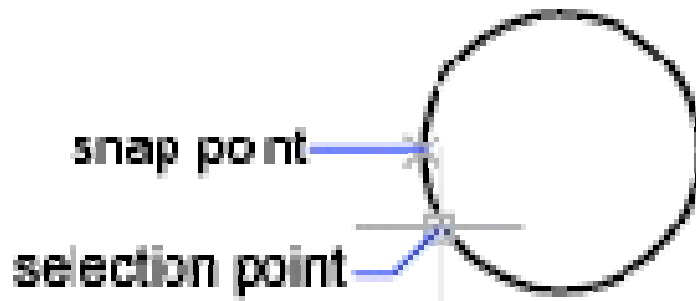

Figure 7.10 – Quadrant
*Quadrant* (fig. 7.10) snaps to a quadrant point of an arc, circle, ellipse, or elliptical arc.